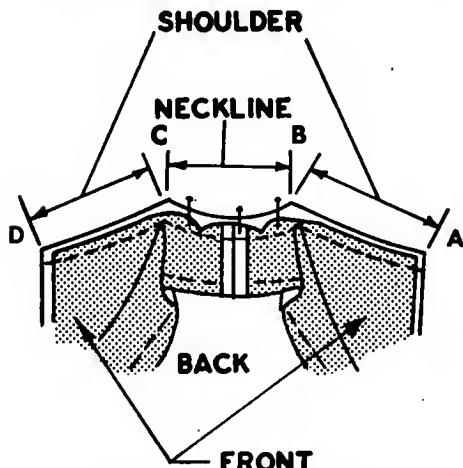

Fig. 205. Joining the collar extension to the neck.
Clip down from the edges almost to the seamline to ease the curve (Fig. 205).
- Pin and baste (Figure 205).
- Since the edges have been stay-stitched, start at the shoulder edge (Fig. 205, A); stitch past the first corner (Fig. 205, B), the machine needle sinking into the point.
- Continue stitching on around the back to the neck, past the second corner (Fig. 205, C) and out to the end of the seam allowance (Fig. 205, D).